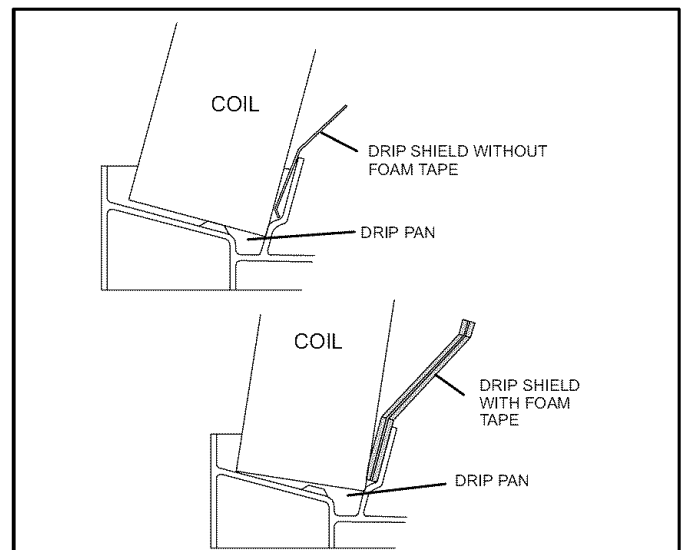

Figure 10. Down-flow Drip Shields
- Step 6. From the underside of the coil, install the down-flow drip shield firmly in place as illustrated in figure 10.